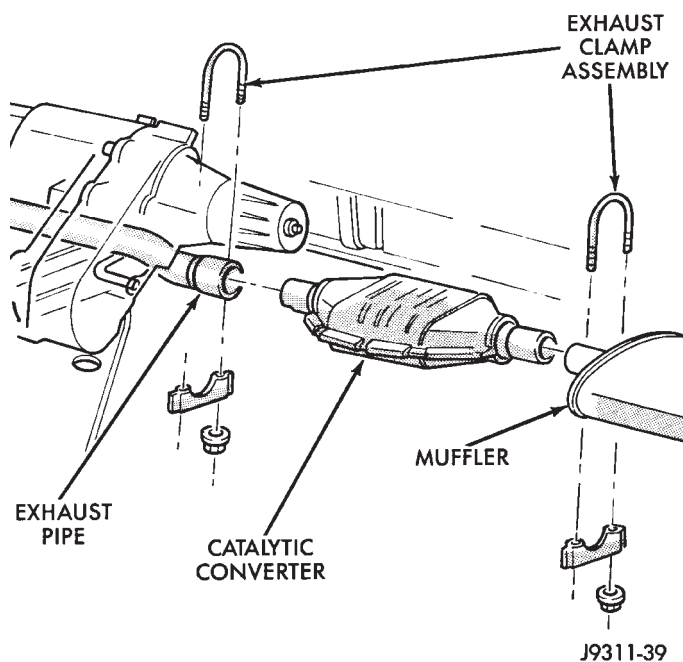

Fig. 8 Exhaust Pipe-to-Catalytic Converter-to-Muffler Connection
- (2) Saturate the bolts and nuts with heat valve lubricant. Allow 5 minutes for penetration.
- (3) Remove exhaust clamp from the catalytic converter and exhaust pipe connection (Fig. 8).
- (4) Remove exhaust clamp from the catalytic converter and muffler connection (Fig. 8).
- (5) Disconnect oxygen sensor wiring.
- (6) Heat the exhaust pipe, catalytic converter and muffler connections with an torch until the metal becomes cherry red.
(1) Position the exhaust clamp over the exhaust pipe/catalytic converter connection (Fig. 8). Tighten the nuts to 61 N·m (45 ft. lbs.) torque.
(2) Install the muffler onto the catalytic converter until the alignment tab is inserted into the alignment slot.
(3) Install the exhaust clamp at the muffler and catalytic converter connection (Fig. 8). Tighten the clamp nuts to 61 N·m (45 ft. lbs.) torque.
(4) Connect oxygen sensor wiring.
(5) Lower the vehicle.
(6) Start the engine and inspect for exhaust leaks and exhaust system contact with the body panels. Adjust the alignment, if needed.
(3) Remove the exhaust clamp from the catalytic converter and muffler connection (Fig. 8).
(4) Heat the catalytic converter-to-muffler connection with an torch until the metal becomes cherry red.
(5) While the metal is still cherry red, remove the tailpipe/muffler assembly from the catalytic converter.